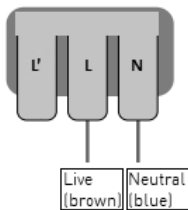

**Fig. 1**
- Remove the diffuser by rotating bezel anti-clockwise (see Fig. 1)